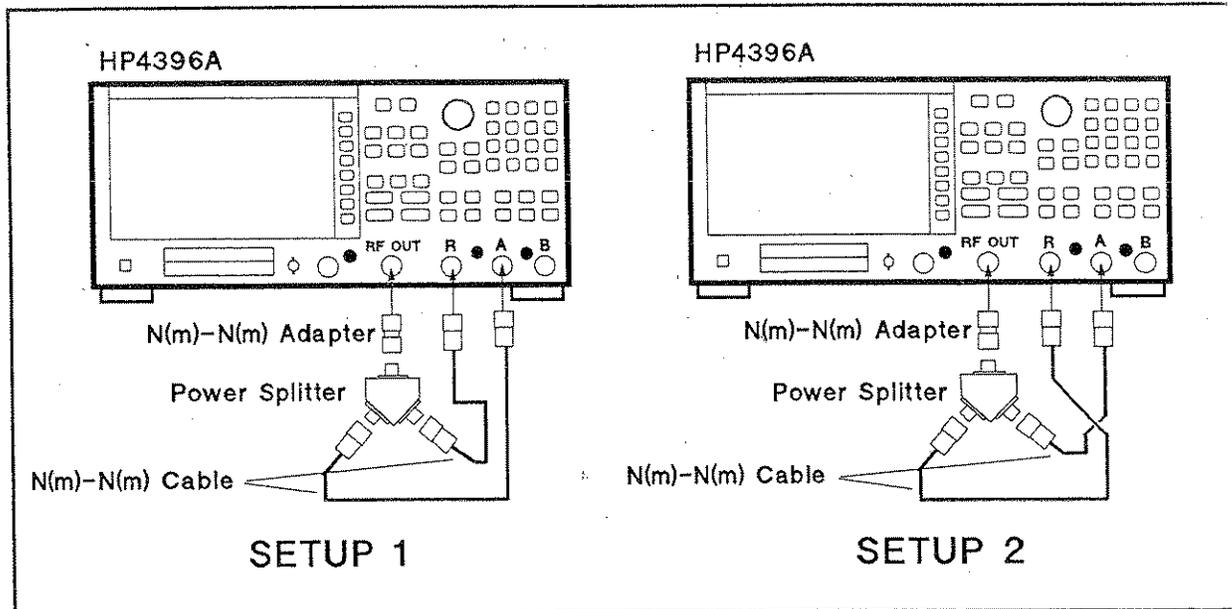

Figure 2-16. A/R Magnitude Ratio/Phase Frequency Response Test Setup
a. Connect the test equipment as shown in setup 1 of Figure 2-16.
e. Reverse the cable connections of the HP 4396A A and R inputs as shown in setup 2 of Figure 2-16.
o. Connect the test equipment as shown in setup 1 of Figure 2-16.
- s. Reverse the cable connections of the HP 4396A A and R inputs as shown in setup 2 of Figure 2-16.